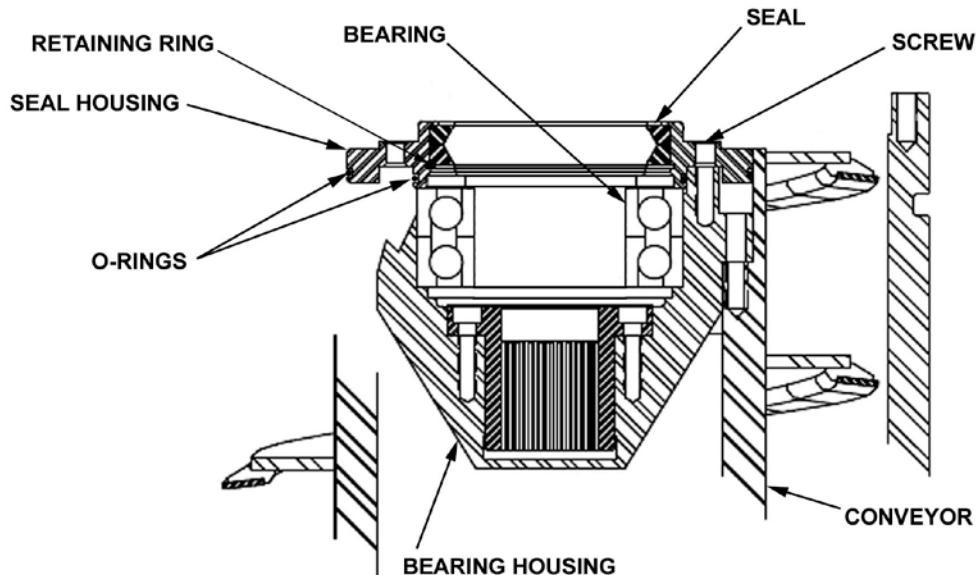

Figure 5-6 Liquid End Seal Housing Removal
- a. Remove four screws securing liquid end seal housing to conveyor (Figure 5-6), and using jack screws to separate seal housing from bearing housing, remove seal housing. Discard seal.
- d. Install new seal in seal housing (Figure 5-6), apply light coat of grease to seal, and install seal housing onto bearing housing. Apply anti-seize compound to screws, insert screws through holes of seal housing and tighten into bearing housing in accordance with *Hardware Torque Specifications*.